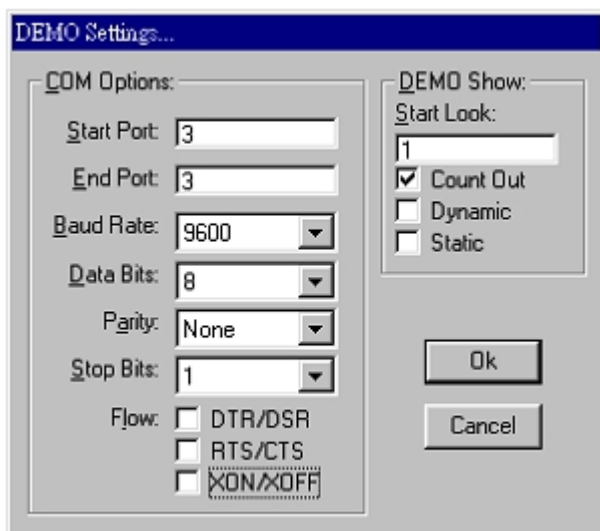

Fig.6
Step2.Click the “Setting” to set the RS422 loop counter (See the Figure 6); your system will detect the COM3.